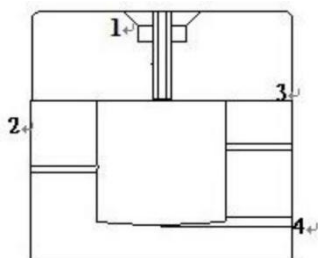
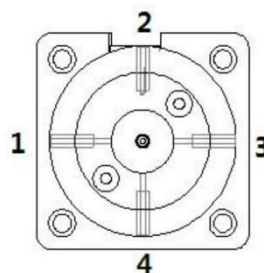

Figure 2 Reaction Tank Tubing
Figure 3 Schematic Diagram of Front Interface of Distribution Valve
3. Installation of reagents and tubing. This instrument can be configured with either a distribution valve or a pressure tube valve. The manual uses the distribution valve installation as an example (refer to Figure 2 and Figure 3);
Take out one bottle each of Drift Calibration Solution A, Slope Calibration Solution B, and CO₂ Cleaning Solution. Replace the original caps with the dedicated perforated caps and tighten them. Place this bottles into the instrument (refer to Figure 2). Then, insert the tubing labeled “A” and “B” into the bottles of Drift Calibration Solution A and Slope Calibration Solution B, respectively. Next, take out the waste container and position it on the right side of the instrument's exterior. Finally, insert the waste tubing into this container.